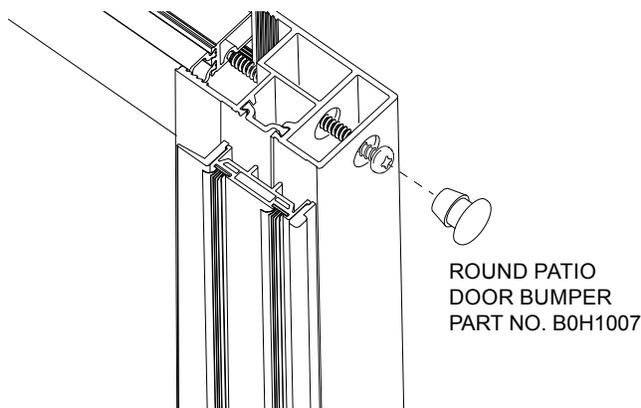

FIG. 17
5. Install the **Round Patio Door Bumper**. (FIG. 17)